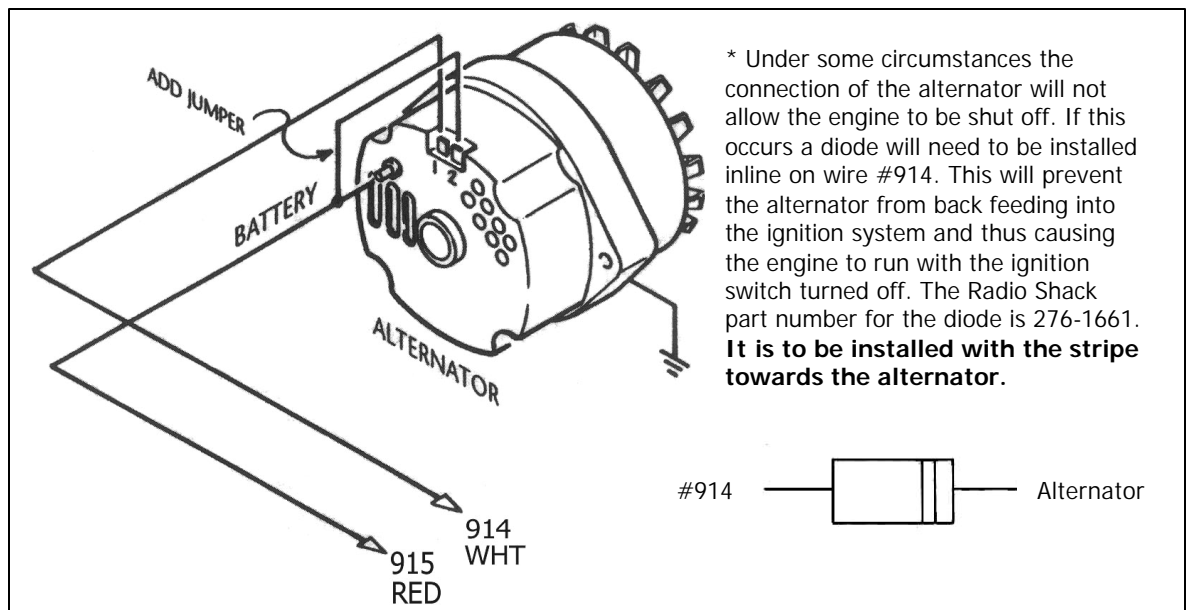

Figure 7-4 Late GM Alternator - Internal Regulator
7.4 GM Alternator (after 1972) - Internal Regulator. See Figure 7-4.
** If you do not have a One Wire alternator refer to Figure7-4